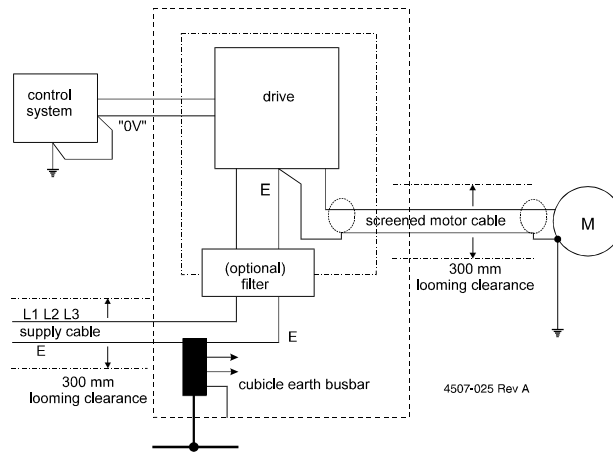

Figure 1: Earthing Layout for Drive System
- Figure 1 shows a good earthing layout for a drive system. Note the following, with reference to the system: